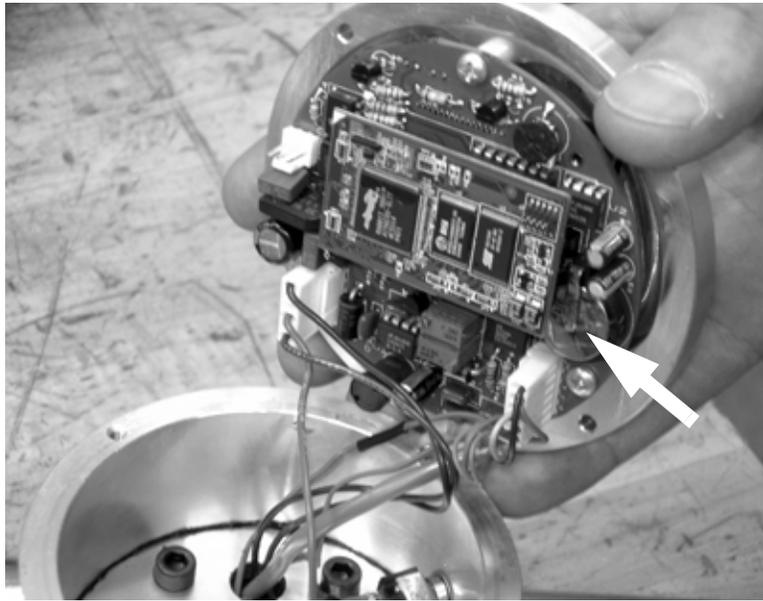

Figure 7-9. The replaceable battery is mounted in a socket on the control unit circuit board.
5. Carefully remove the face plate and turn it over to access the circuit board inside the control unit. The battery is in a socket mounted on the circuit board, as shown in Figure 7-9.